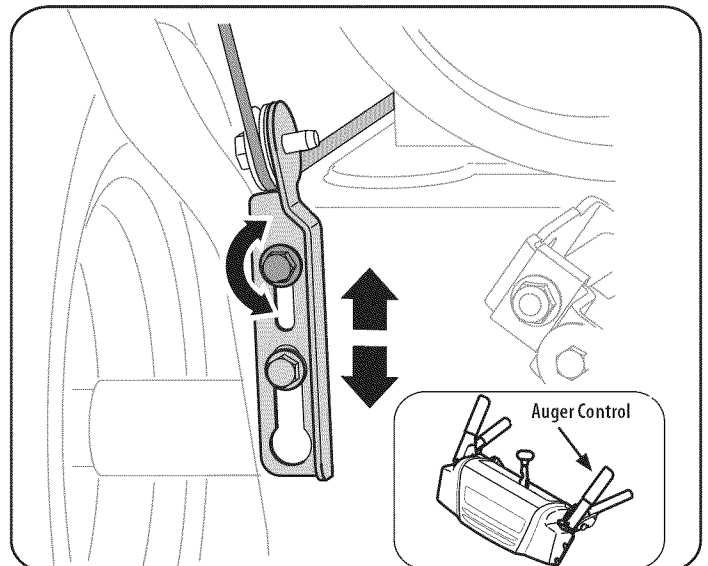

Figure 12
1. The auger control is located on the left handle. See Figure 12 inset. When the auger control is released and in the disengaged "UP" position, the cable should have very little slack. It should NOT be tight.
7. To readjust the control cable, loosen the upper hex bolt on the auger cable bracket. See Figure 12.